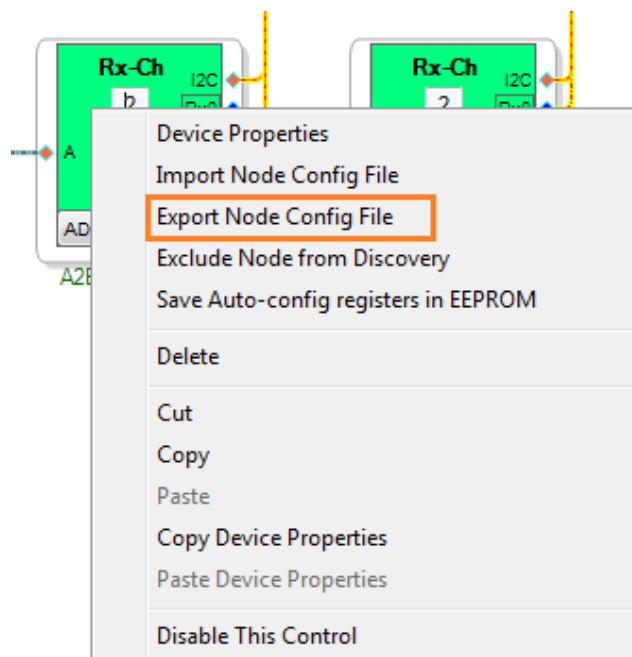

Figure 44: NCF Export
2. Right click on the node to be exported and select '*Export Node Config File*' option as shown in Figure 44.